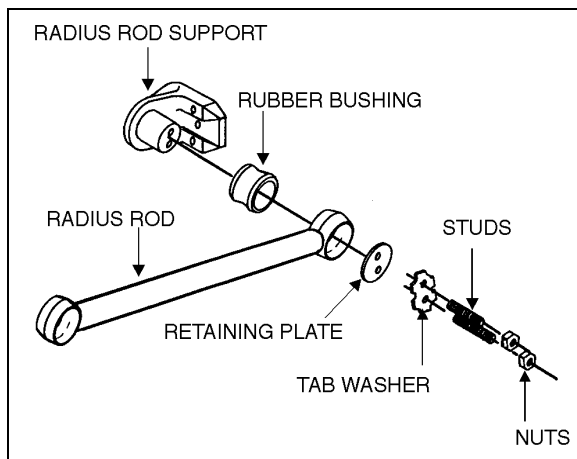

FIGURE 5: TYPICAL RADIUS ROD SETUP 16010
1. Flatten the tab washer which secures the two retaining nuts (or bolts), and then unscrew the nuts (or bolts) at each extremity of the radius rod (Fig. 5).